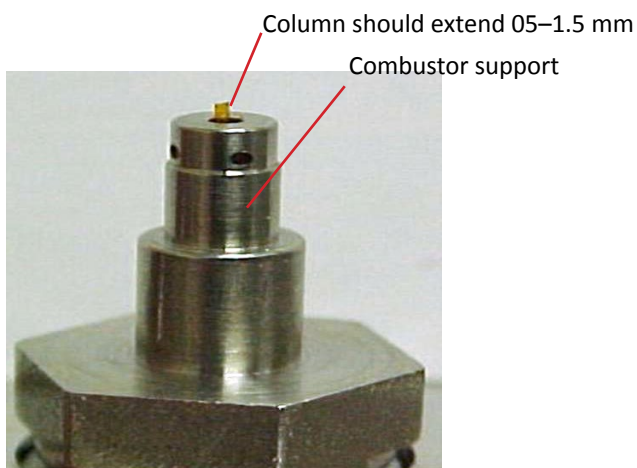

Figure 3.38. Combustor assembly
- Carefully pull the capillary column down until the column extends only 0.5 mm to 1.5 mm above the top of the combustor support (Figure 3.38). Tighten the GC column nut to hold the column in position. Using a magnifying glass, verify the top of the column is correctly positioned 0.5 mm to 1.5 mm above the top of the combustor support.
NOTE: For optimal performance, the column must be 0.5-1.0 mm above the combustor support (Figure 3.38).